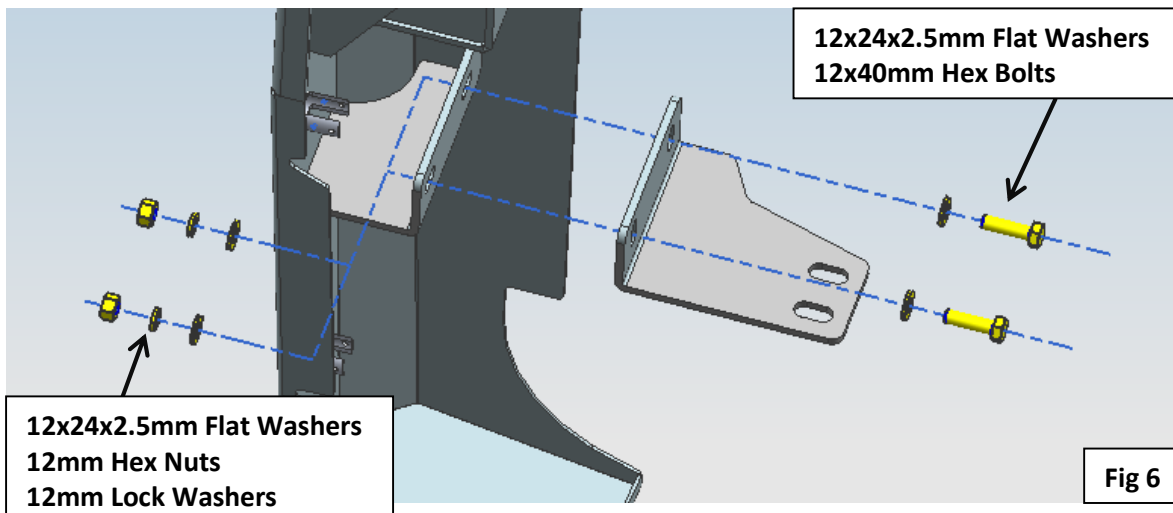

Fig 6
6. Connect the the brackets with the bumper, do not fasten the hardware tightly (Fig 6).